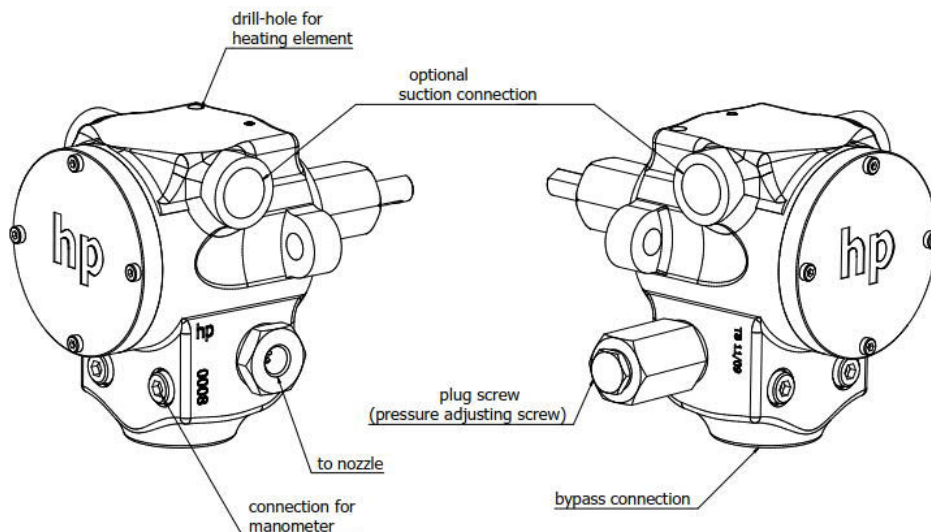

Fig. 1. Nozzle port on the left side "L"
- The suction connection (see Fig. 1) of the pump is filled with oil. Then the suction line is connected to thread suction connection.
- The pressure/delivery line connect to nozzle connection and connect the bypass connection (see Fig. 1 and Fig. 2).
- Remove the screw plug for connecting the manometer (Fig. 1 and Fig. 2). The pressure gauge shows the delivery pressure. Observe using manometers with the right pressure range (according to the pump's pressure range).
- Either of the two suction connections can be selected for the suction side (Fig. 1). Where required, a manometer can be connected to the second suction connection to measure the suction pressure. Otherwise, the unused suction connection is closed off with a sealing ring and plug screw.
- For pressure regulation, the plug screw (see Fig. 1) must be removed.